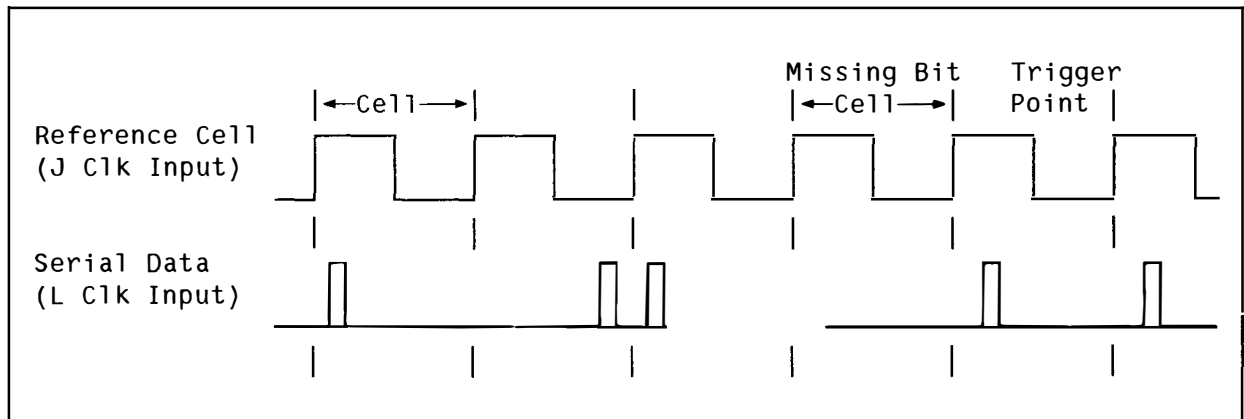

Figure 5-13. Missing Bit Timing Diagram
A missing bit (signal dropout) is the absence of a signal transition within a given time window. This window is referred to as the reference cell. An extra bit (glitch) is the occurrence of two or more transitions within a time window. Figures 5-13 and 5-14 illustrate two examples of these cases.
For the HP 54201D to detect a fault, a reference signal and serial data (signal under test) must be applied to the "J" and "L" clock inputs on the oscilloscope state pods. The pod inputs are logic analyzer type triggering probes which are separate from the analog inputs. In the examples shown in figure 5-13 and 5-14, the reference input is a simple repetitive clock with the serial data input being a return-to-zero (RZ) signal. Depending upon the application, various combinations of edge selections can be made defining reference cell boundaries and data transitions. For example, if in the examples of figures 5-13 and 5-14, the serial data was non-return-to-zero (i.e., one transition per reference cell), then the serial data would be specified as both rising and falling edges.